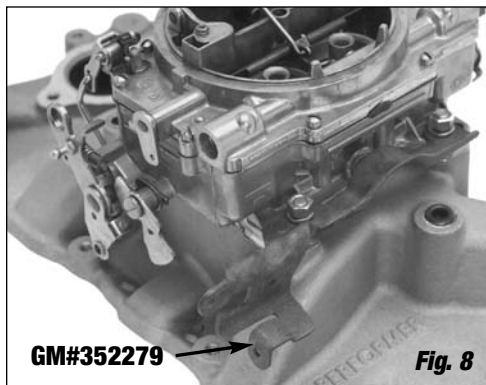

Fig. 8
4. Connect all throttle and transmission linkages and throttle return springs. You may have to cut, bend or modify your stock throttle cable brackets to fit the new carburetor, or use GM #352279 (**See Fig. 8**). 1972-78 small-block Chevy V8s may use Edelbrock Throttle, Transmission, and Cruise Control bracket #8030, #8031, #8032, or #8036 (chrome).